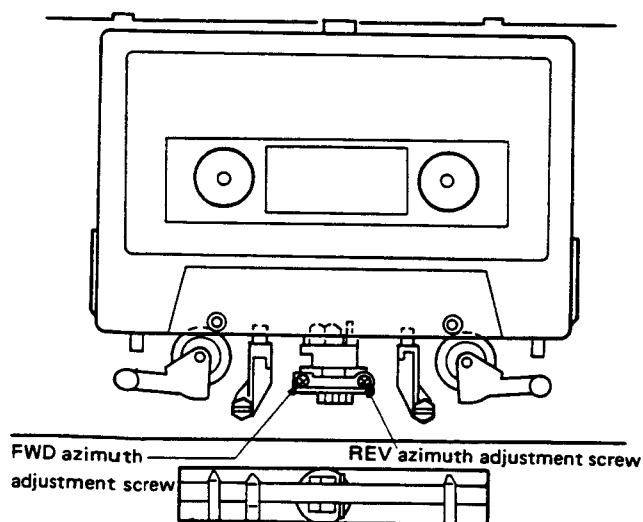

Fig. 7-4 Head azimuth adjustment
| NORM | PLAY | Play back 10kHz, -20dB with STD-331B test tape | | Head angle adjustment screw (Fig. 7-4) | TP501 (L) TP502(R) | Maximum playback signal level | Lock screw after completion of adjustment. |